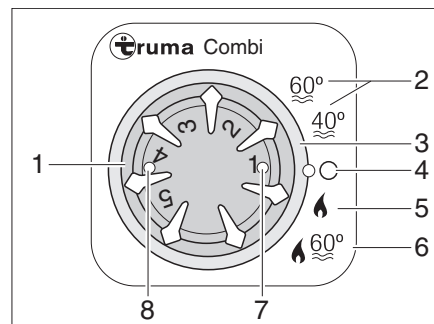

Fig. 326 Operating unit for heater/boiler
- Set the operating mode using the rotary switch (Fig. 326,3).
The heater selects the necessary burner setting according to the set heating level. In the "Heater and boiler" (Fig. 326,6) operating mode, the water in the boiler is also heated. The heater can be operated with an empty boiler in the "Heater without boiler" (Fig. 326,5) operating mode.
- Turn the temperature control knob (Fig. 326,1) on the operating unit to the desired heating level.
- Set the rotary switch (Fig. 326,3) to winter operation "Heater without boiler" (Fig. 326,5) or to winter mode "Heater and boiler" (Fig. 326,6).
The green indicator lamp (Fig. 326,7) lights up.
- Set the rotary switch (Fig. 326,3) to "O" (Fig. 326,4).